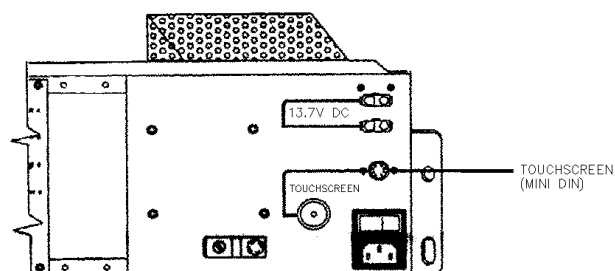

Figure 5-4 CABLE CONNECTION TO CIP PS
1. Connect the touchscreen power cable (mini DIN type) to the CIP PS mini DIN connector as shown in Figure 5-4.